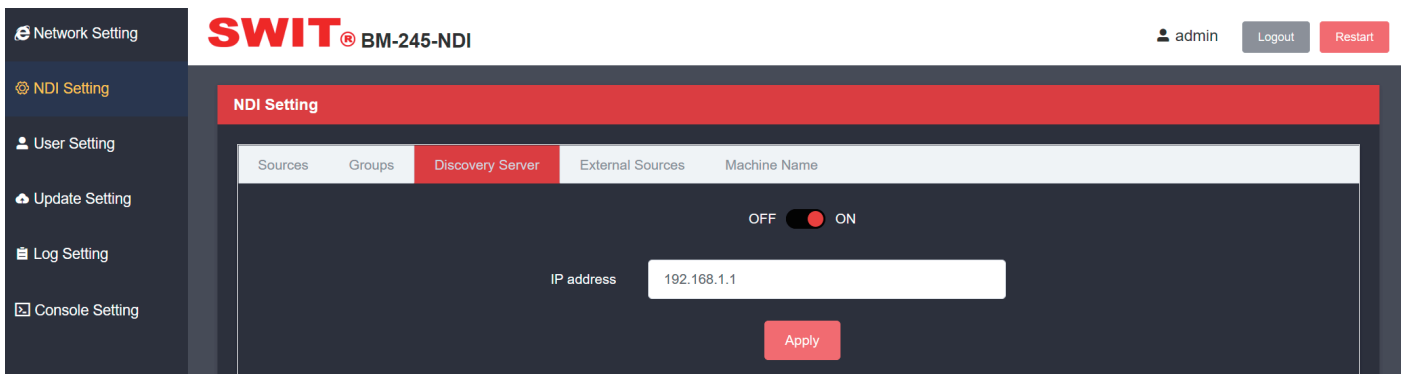

Fig.5
4. When the above button is selected as "ON", you can enter the IP address input box below, enter the IP address of the server to be connected (the server must have Discovery Server service enabled), and click "Apply". See Fig. 5 below for details.